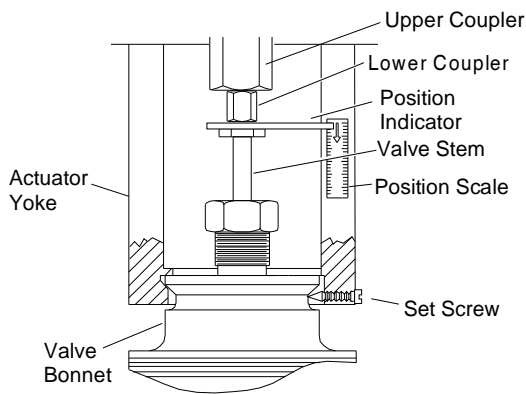

Figure 6: Installing the Valve Actuator
10. Attach the position scale label to the actuator yoke as shown in Figure 6. Place the second label on the backside of yoke.